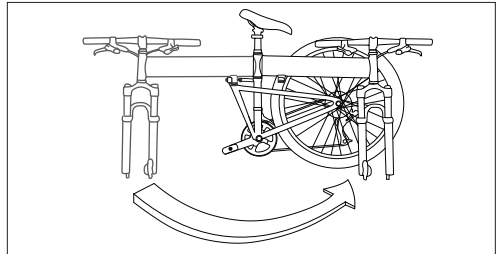

Fig. 37: Fold the bike frame in half.
6. While holding the quick release open with one hand, grasp the handlebars with the other and turn them away from you (Fig. 37).
7. Pull the boom tube of the bike toward you and fold the bike in half (Fig. 37).